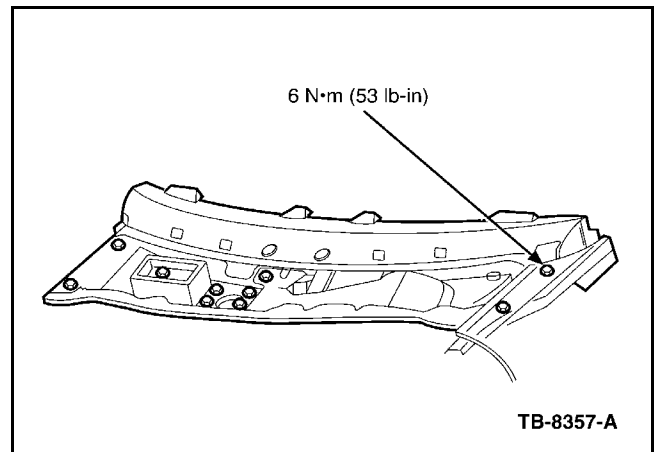

Figure 10 - Article 088-2005-5551
15. Install the lower cowl panel and 10 retaining bolts (Figure 10).